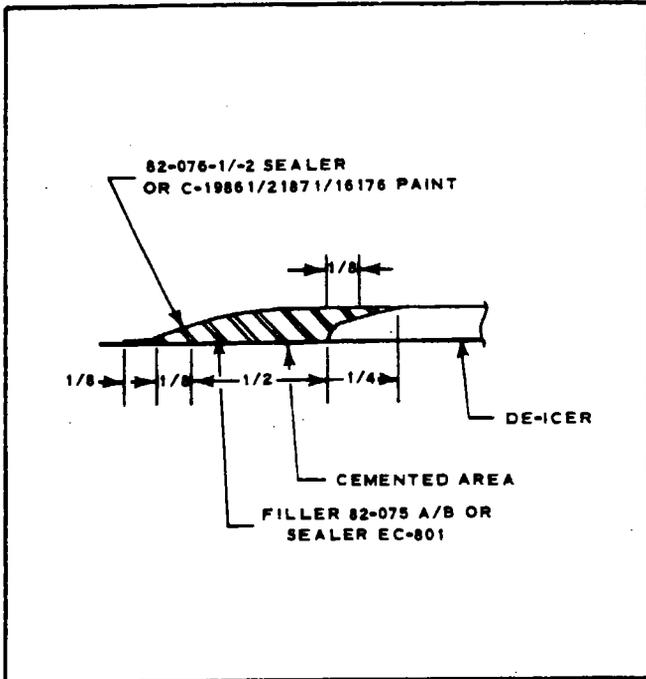

Figure 14-13. Sealer Application (Boot)
e. Locate masking tape approximately -.125 inch beyond cemented area around deicer to allow application of filler directly to metal. Apply one even brush coat of 82-075A/B filler (or EC-801 sealer) over .125 inch of bare metal, cemented area and about .125 of an inch of deicer. (See Figure 14-13.)
g. Apply new masking tape approximately .125 of an inch beyond filler to allow application of sealer directly to metal. Apply one even brush coat of 82-076-1/2 sealer (or C-19861/C- 16176 paint) over .125 of an inch of bare metal, filled area and .250 of an inch of deicer. (See Figure 14-13.)